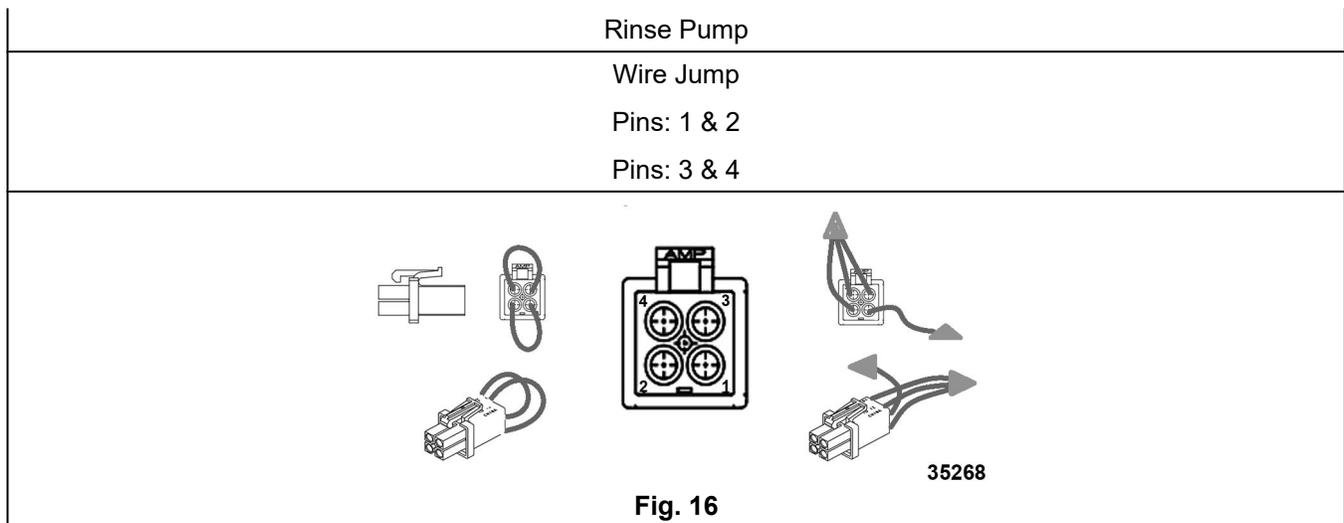

Fig. 16
5. Determine model and use correct model designator (Fig. 16) in model designation connector on control board.